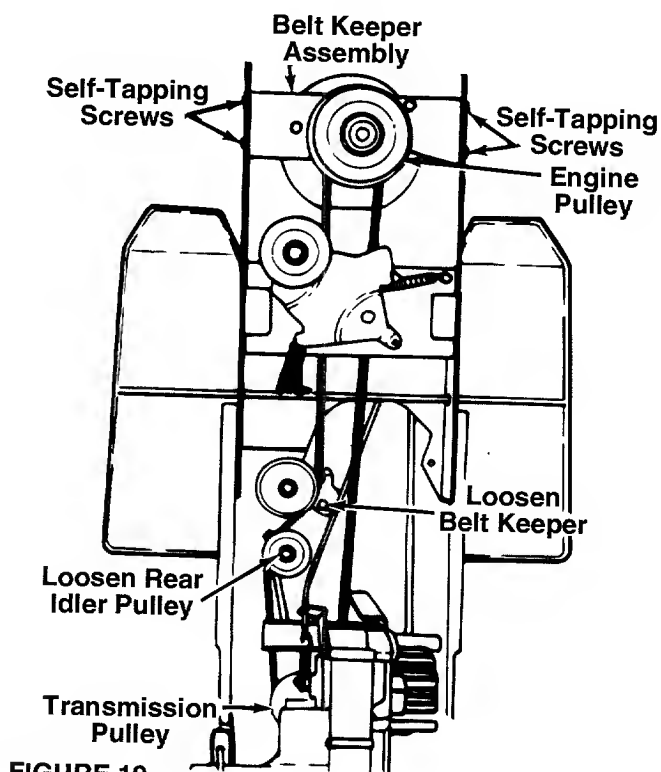

FIGURE 19.
DRIVE BELT REPLACEMENT (See figure 19)
4. Remove the four self-tapping screws which hold the belt keeper assembly to the frame at the engine pulley. Push the belt keeper assembly forward, out of the way. See figure 19.